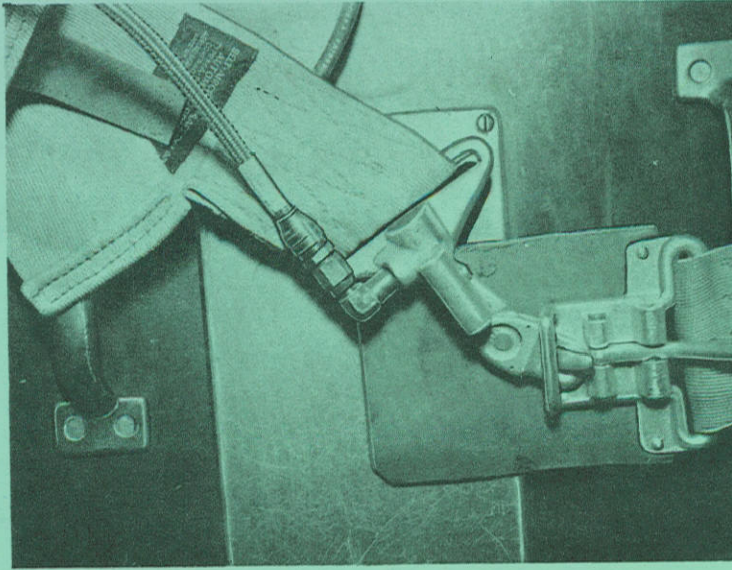

Figure 1
- (g) The initiator hose should fit snugly against the lap belt as shown in Figure 1.